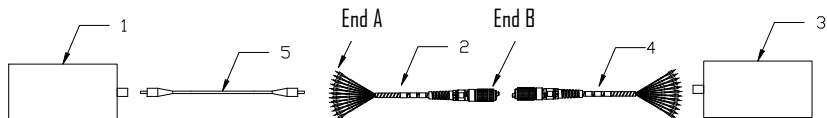

FIGURE A-6 - TEST MEASUREMENT (P2)
- ii. CONNECT END “A” (ST CONNECTOR END) OF A REFERENCE MQJ (DESIGNATED MQJ 3) TO MQJ 1, THE END OPPOSITE THE LIGHT SOURCE. (SEE FIGURE A-6)
- iii. CONNECT END "B" OF MQJ 3, THE END OPPOSITE THE LIGHT SOURCE, TO END "B" OF THE MQJ UNDER TEST. (SEE FIGURE A-6)
- iv. CONNECT END "A" (ST END) OF THE MQJ UNDER TEST TO THE POWER METER (SEE FIGURE A-6)